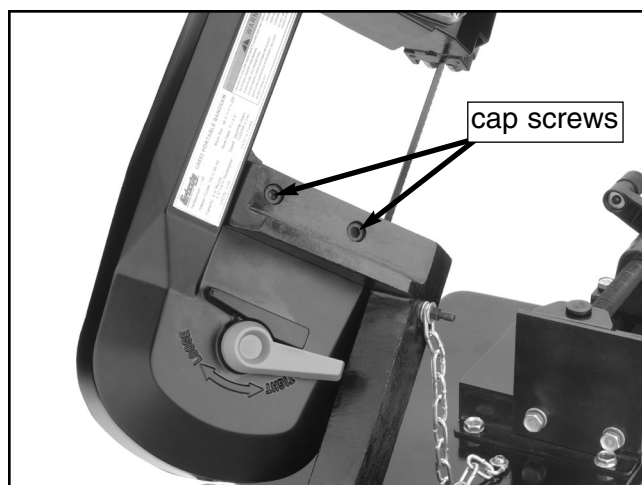

Figure 4. Mounting brace cap screws.
2. Remove the bandsaw from the work stand by removing the mounting brace cap screws shown in **Figure 4**.